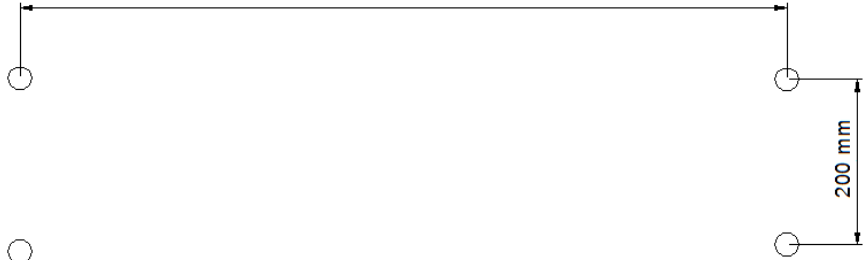

Fig. 6
1. Make 4 holes for a plug suitable for the ceiling according to the indications shown in Figure 6 according to the length of the ceiling light L 700mm, L 1300mm or L 1600mm.